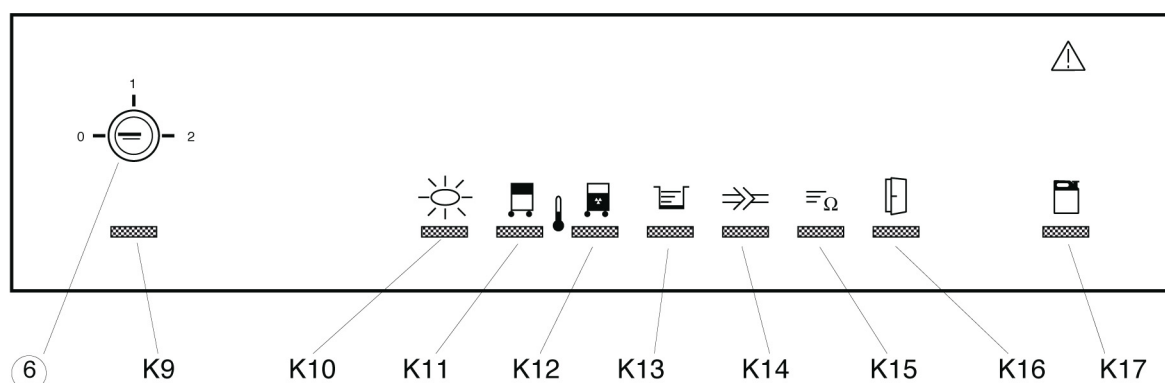

Fig. 5.2: Supply-unit control lights (see explanations below)
- Insert the key into the keylock switch located on the supply unit (see Fig. 5.2). If the separate version is used, the keylock switch may be optionally located on the rear side of the laser head housing. However, the keylock switch is always used in the same way wherever located.